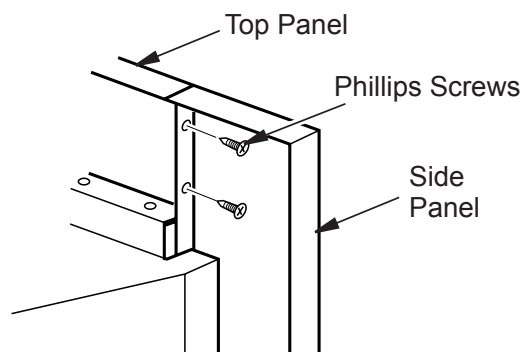

Figure 9 - Attaching Side Panels to Top Panel
6. Align screw holes in side panels with holes in top panel (see Figure 9). Insert and tighten #8 Phillips screws.